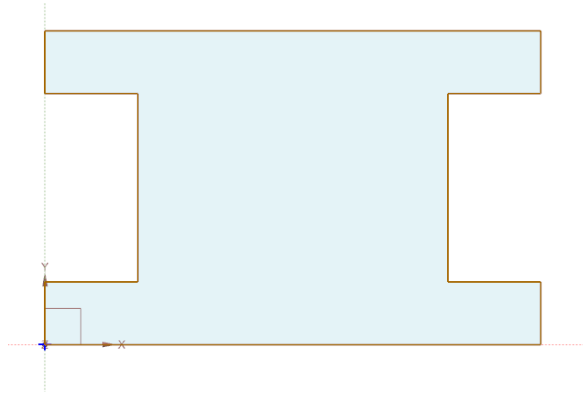

Figure 2-65 Outer profile of the sketch
17. Press the Esc key twice to exit the line tool. The outer lines of the sketch is shown in Figure 2-65.